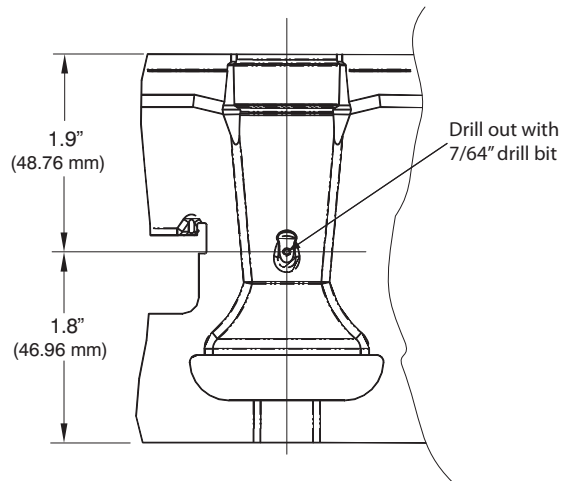

Fig. 6 - Mixer Screw Location
1. Locate the dimple on the bottom of each burner venturi tube. If you cannot locate the dimple, refer to Fig. 6 for location of the mixer screw.